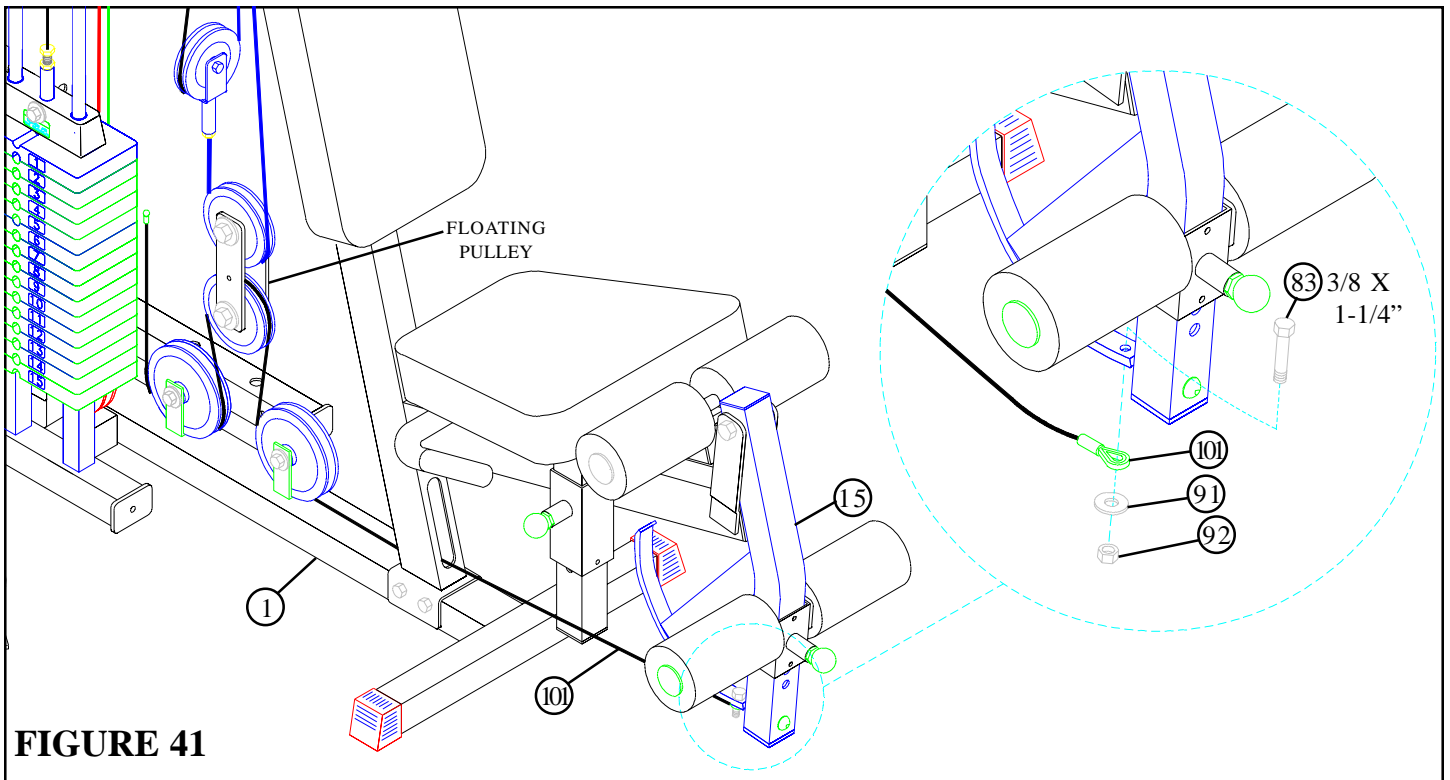

FIGURE 41
- To assemble the LEG CABLE (101) follow the cable routing as shown and use the following steps:
- **SECURELY** attach the LEG CABLE (101) to the LEG CURL/EXT (15) using one 3/8 X 1-1/4" BOLT (83), one 3/8" WASHER (91), and one 3/8" LOCK NUT (92). See FIGURE 41.
- Route the LEG CABLE (101) around the pulleys in the BASE (1) and through the floating pulley as shown in FIGURE 41.